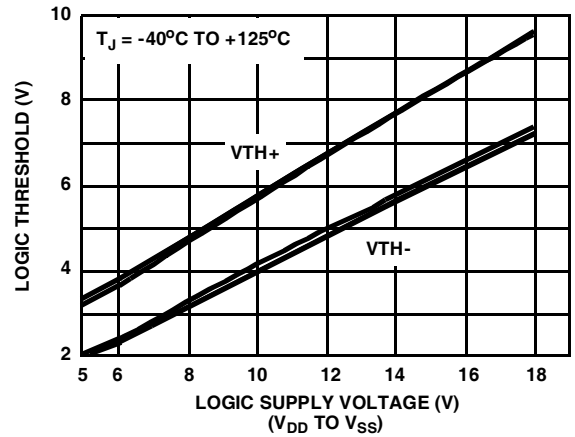

FIGURE 8. INPUT LOGIC THRESHOLD vs SUPPLY VOLTS
- See Figure 8 for logic supply voltages other than 15.0V.